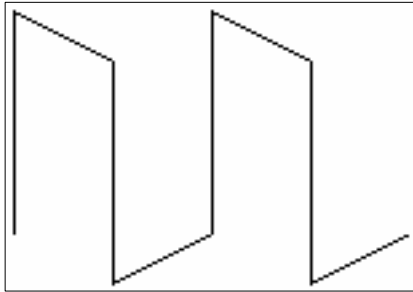
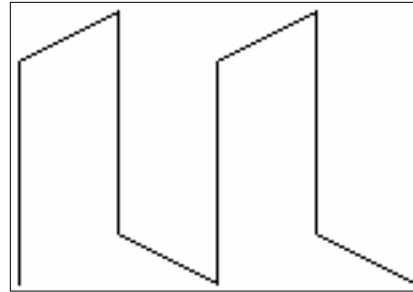

Figure 7-1 Under (increase level)
Figure 7-2 Over (decrease level)
2. Select Tx Deviation and Modulation Balance - current channel (O)
7. Adjust the Reference Deviation digital potentiometer until the top of the waveform is flat. If the waveform top droops increase the level (see Figure 7-1) and if it peaks reduce the level (see Figure 7-2).